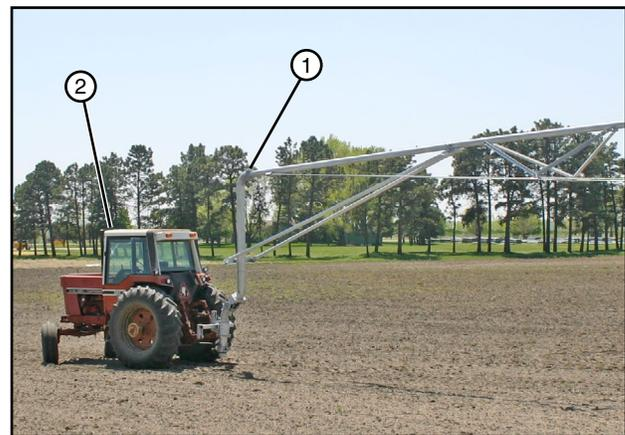

Figure 35-2 1. Small Field Pivot
6. After the receiver tube is out of the upper anchor, begin towing the machine in a slow, gradual manner to the next location. See figure 35-2.